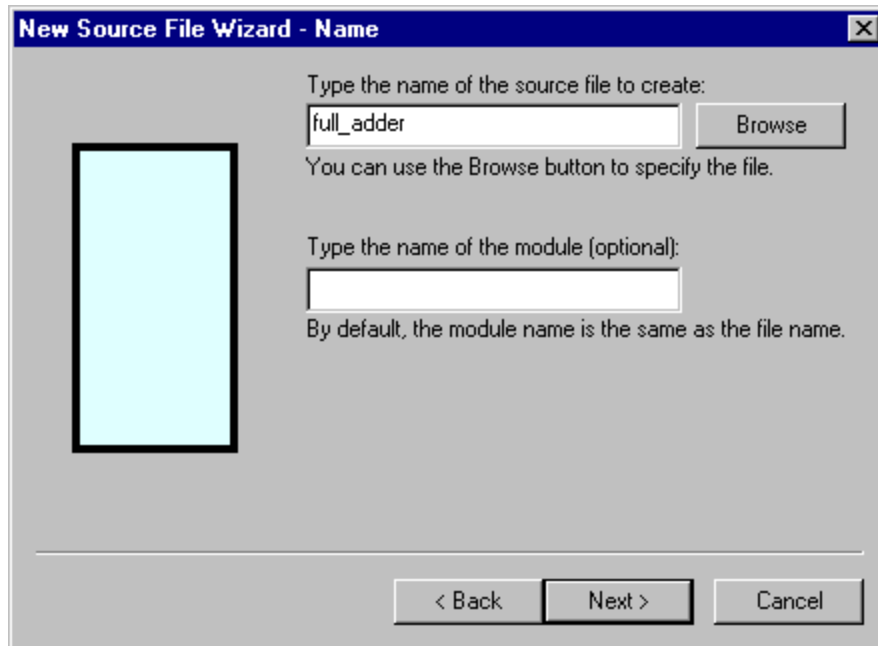

Figure 10
5. In the “Type the name of the source file to create” field, enter the name of your schematic design. Use **descriptive** names. Do not use the same name that you named your design or workspace. Also, **do not use a different name for the module**; leave this field blank. Active-HDL will use the source files name for the module by default. Click the Next button. (See Figure 10)